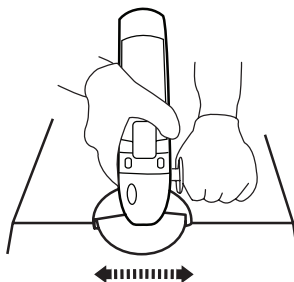

Fig. 19
4. Move the product back and force steadily (Fig. 19).